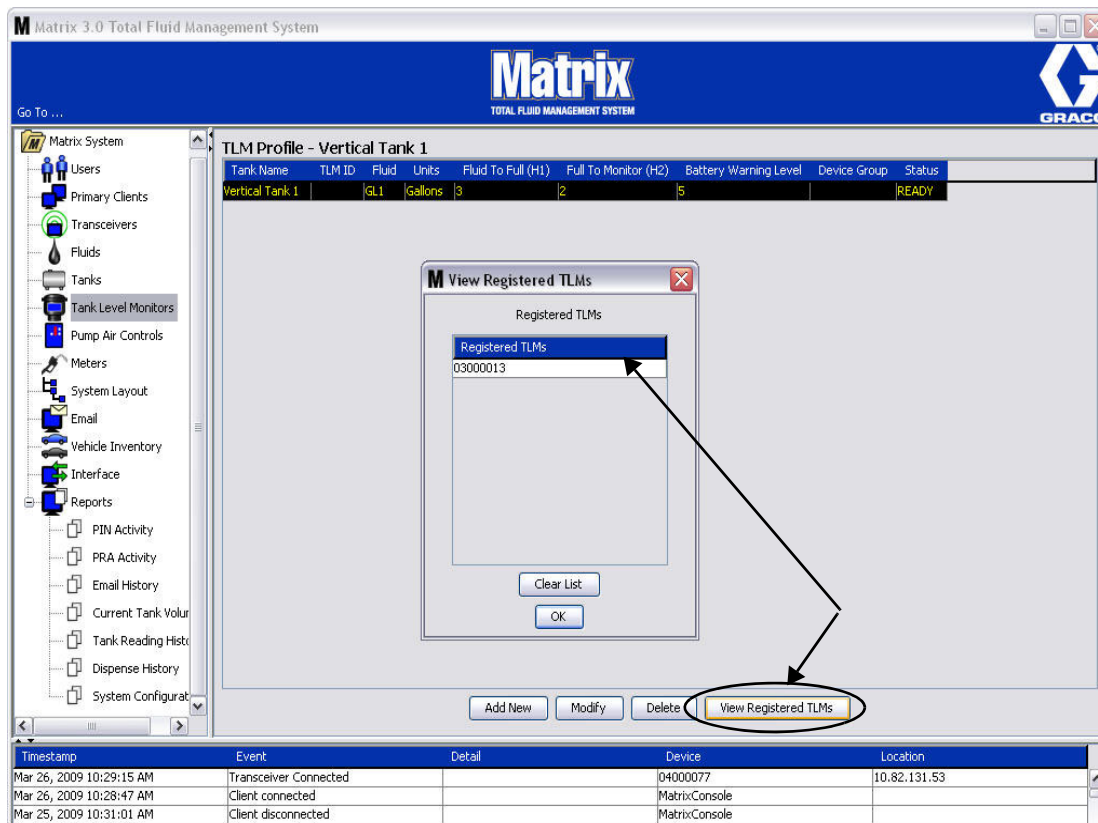

FIG. 110
8. The Clear List button removes all registered TLM's from the system (FIG. 110). These TLM's will have to be re-registered with the Matrix PC. See the TLM instruction manual for complete TLM registration instructions.